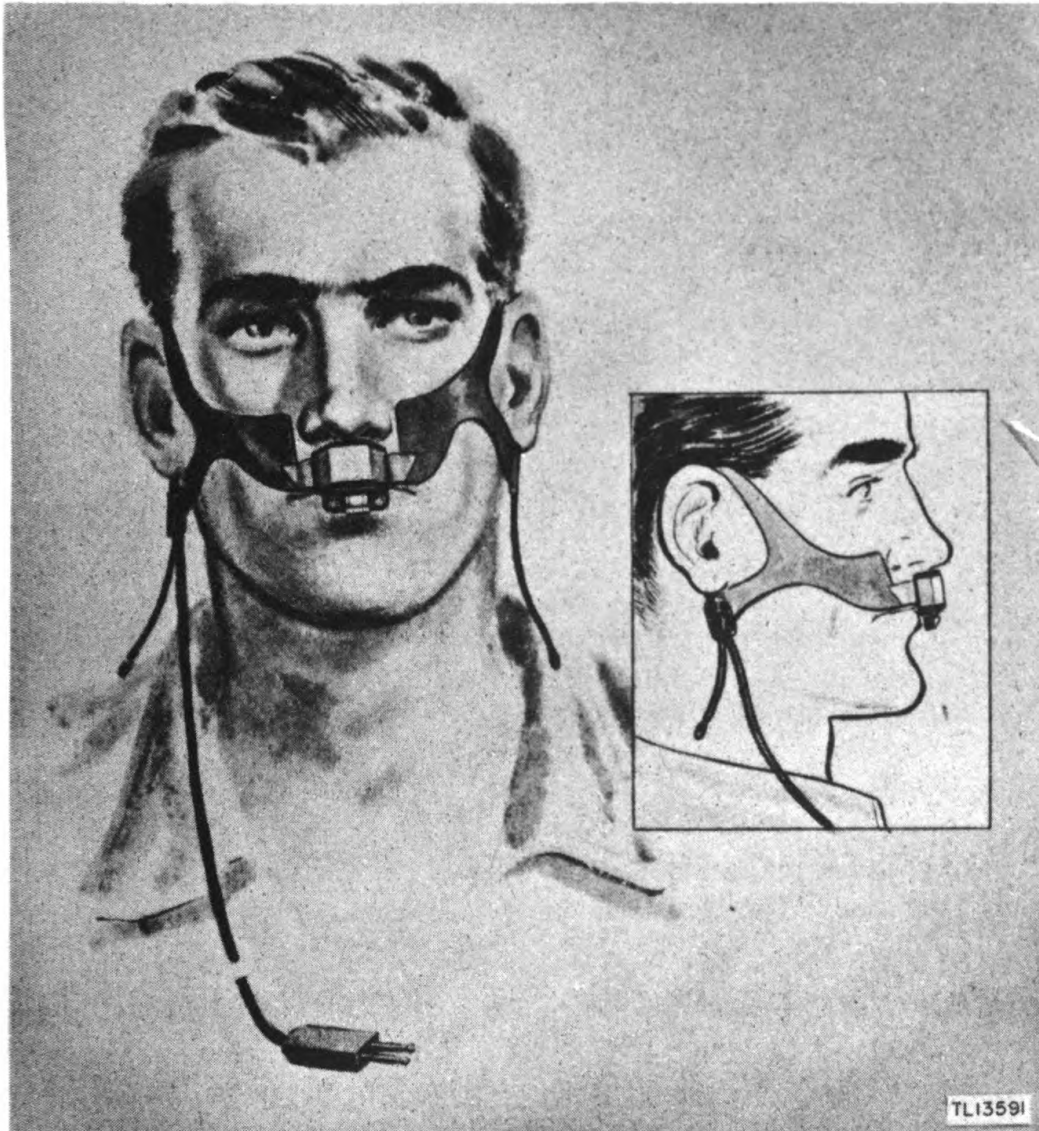
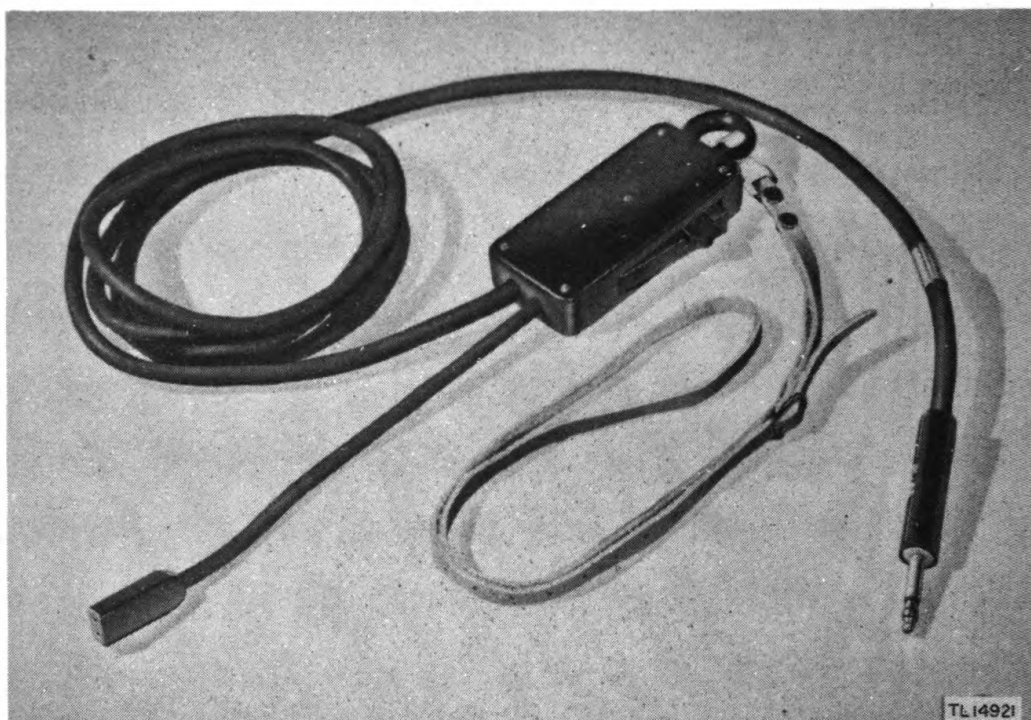

Figure 27. Microphone T-45, as worn by operator.
Figure 28. Cord CD-318-A.
c. Microphone T-45 (fig. 27) when used with Radio Set AN/TRC-7, is worn in conjunction with Headset HS-30-(). The correct procedure for assembling and wearing Microphone T-45 and Cord CD-318-A (fig. 28) follows: